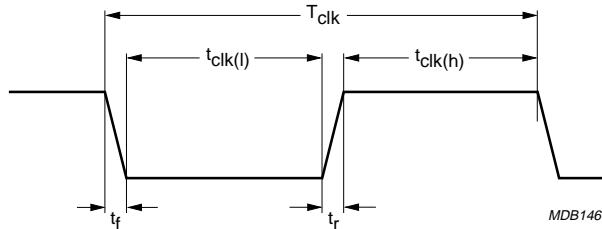

Fig 6. Sys\_clk characteristics
- sys\_clk: system clock for data processing part; frequency can be between 27 and 35 MHz; see Figure 6 and Table 3